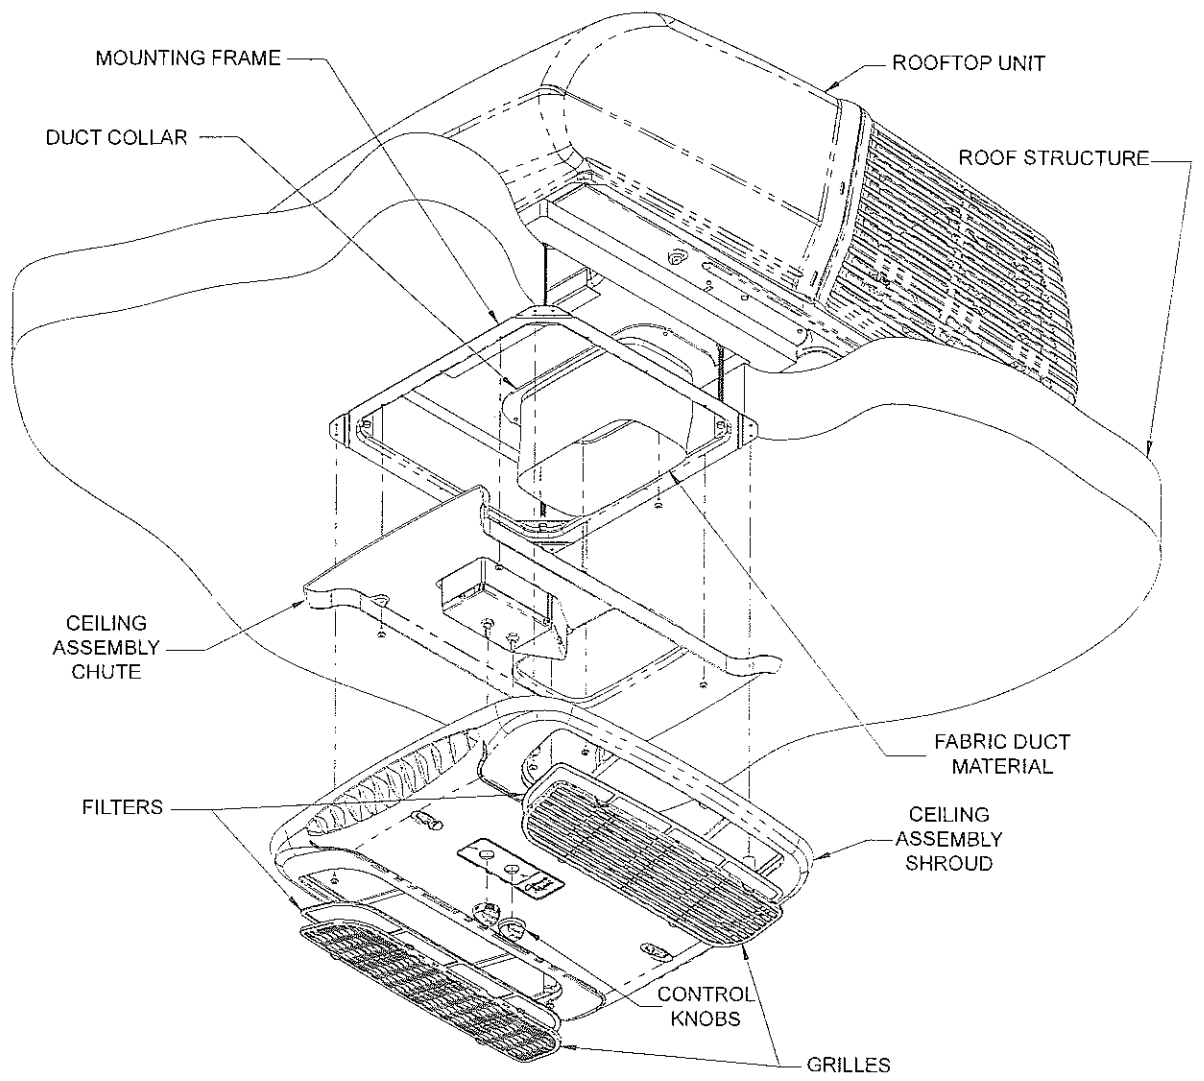

FIGURE 9
- B. Fasten the duct collar to the air conditioner basepan with 3 provided screws (See Figure 9).
- H. Raise the ceiling assembly chute to the unit mounting frame and secure the chute with 4 provided screws (See Figure 9).
- K. Raise the ceiling shroud and while insuring it meshes with the chute, secure to mounting frame with 4 provided screws (See Figure 9).